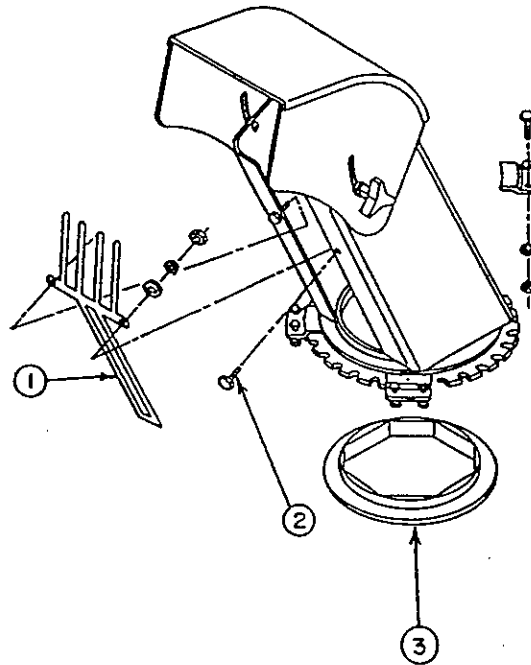

FIGURE 2
- a) Install the hand guard (fig.2, item 1) on the chute with the top portion inside the chute and the bottom section outside the chute base ring. Place two 1/4" x 3/4" bolts (fig.2 item 2) with the head on the outside, through the chute then through the hand guard and secure bolts with flatwashers, lockwashers and nuts. Torque to 9-11 lbs.ft.
- b) Place the plastic anti-friction insert (fig.2, item 3) over the chute base. Apply grease on top of this insert where it will become in contact with the chute base.